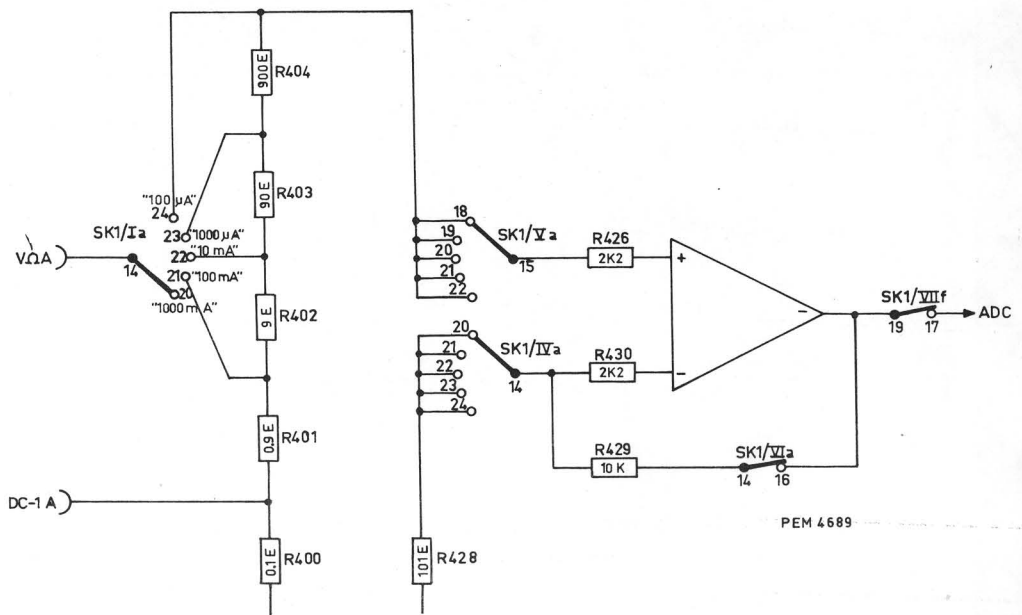

Fig. 8. DC current circuit
2. DC current circuit (Fig. 8)